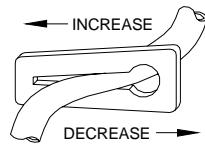

FIG. 6
- **Adjust water amount.** Your cooler is equipped with a unique water metering valve (Fig. 6). The amount of water delivered to the pads may be decreased by pressing the plastic valve as the arrows indicate. If water is splashing out of water troughs, you may need to decrease the amount of water delivery. Check to see that all pads are saturated with water and that there are no dry spots or openings in the pads.